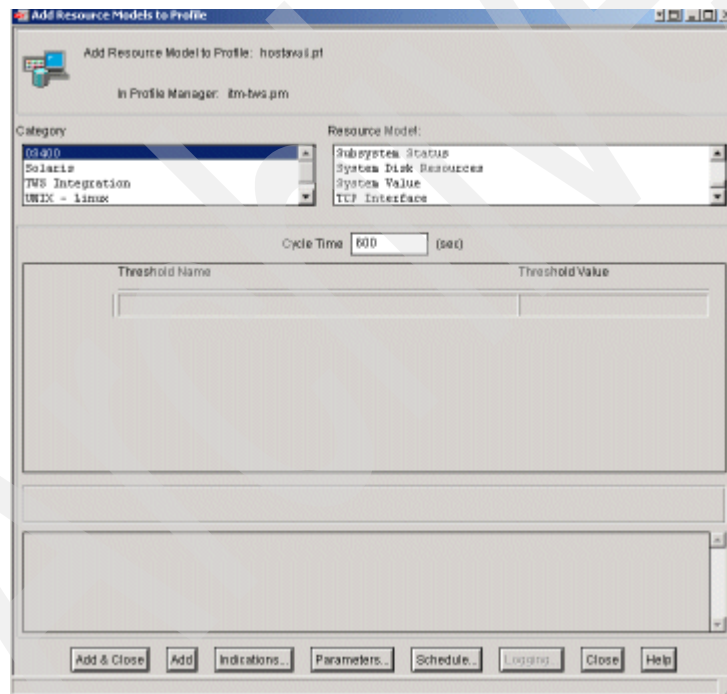

Figure 9-68 Add Resource Models to Profile window.
1. In the hostavail.pf profile, select **Add**. The Add Resource Models to Profile window displays as shown in Figure 9-68.